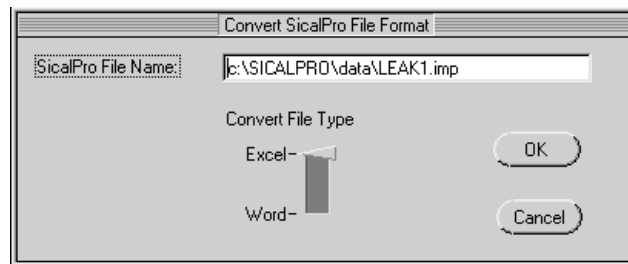

Figure 5-5: Example display - Convert window
2. If necessary, select a different *Directory*. Then select a file name from the list and click on *OK*. > See Figure 5-5.